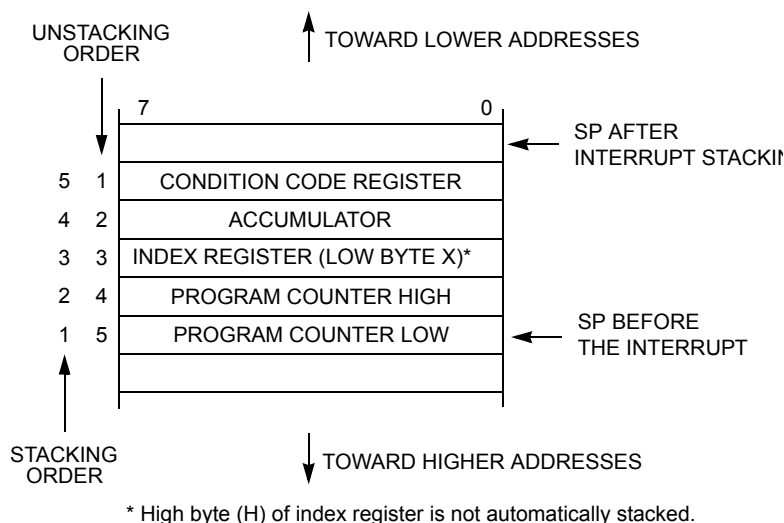

Figure 10-1. Interrupt Stack Frame
Figure 10-1 shows the contents and organization of a stack frame. Before the interrupt, the stack pointer (SP) points at the next available byte location on the stack. The current values of CPU registers are stored on the stack starting with the low-order byte of the program counter (PCL) and ending with the CCR. After stacking, the SP points at the next available location on the stack which is the address that is one less than the address where the CCR was saved. The PC value that is stacked is the address of the instruction in the main program that would have executed next if the interrupt had not occurred.